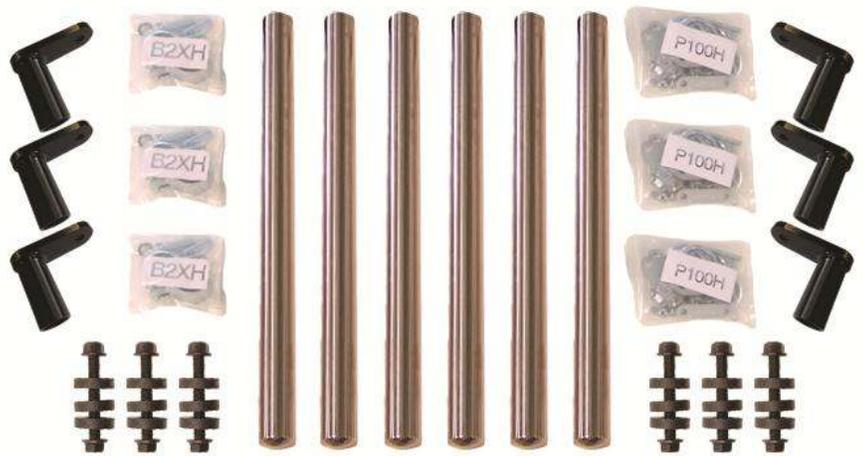

Figure 1
- B. Compare the parts with hardware kit B9900BTSA as shown in Figure 1.